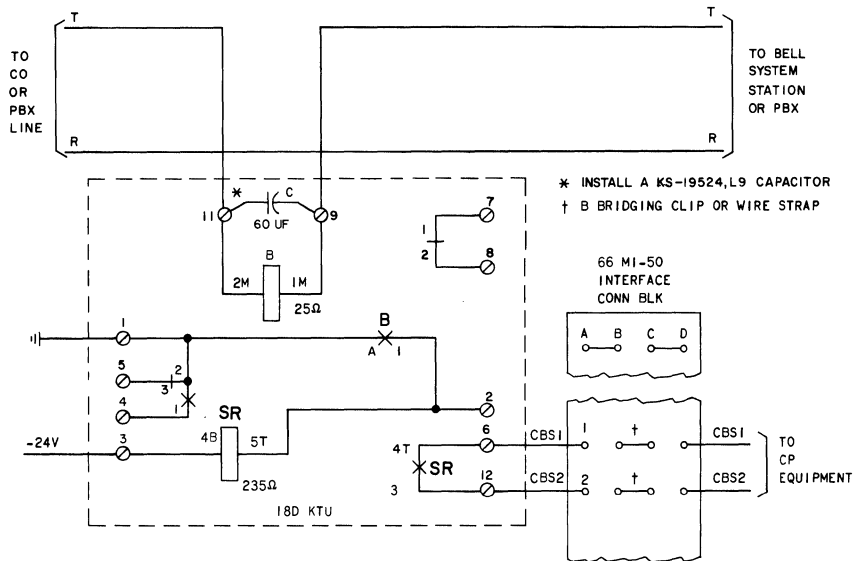

Fig. 8—Protective Connecting Arrangement C1V—Schematic
- 3.04** Mount the 18D KTU in the 105C apparatus mounting and make connections as shown in Fig. 8.
4.01 PCA CIV (Fig. 8): This service requires an 18D KTU only. On seizure of the CO line by the telephone company station or PBX, B relay operates from CO line current. The B relay operated operates SR relay which provides a contact closure toward the CPE over leads CBS1 and CBS2. The SR relay (slow release) maintains the CBS1-CBS2 closure, while the B relay may follow dial pulses from the CO line. When the line is idle, both relays release.
(a) **PCA CIV (Fig. 8):** Connect an 81A or KS-16990, List 1 test set across terminals CBS1 and CBS2. Set the test set to the continuity position (continuity should not be indicated). At the connecting arrangement, connect a 1013A (or equivalent) hand test set across the T and R leads to the telephone company station or PBX. Push the TALK-MON switch of the hand test set to the TALK position. Dial tone should be heard, and the B and SR relays should operate and close the contact to terminals CBS1 and